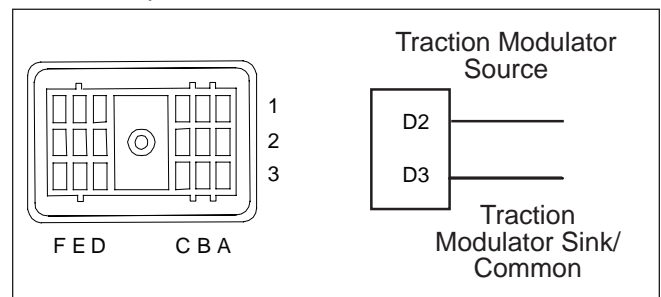

FIGURE 3 - 18-PIN CONNECTOR
2. Make the connections to the vehicle per the wiring diagram - See Figure 3. To allow the ECU to continue to disable the retarder, add one 18-gauge twisted pair of wires on the 30-pin connector. Connect pin K1 (Retarder Relay). Connect the relay to power and the retarder connection of the ECU.